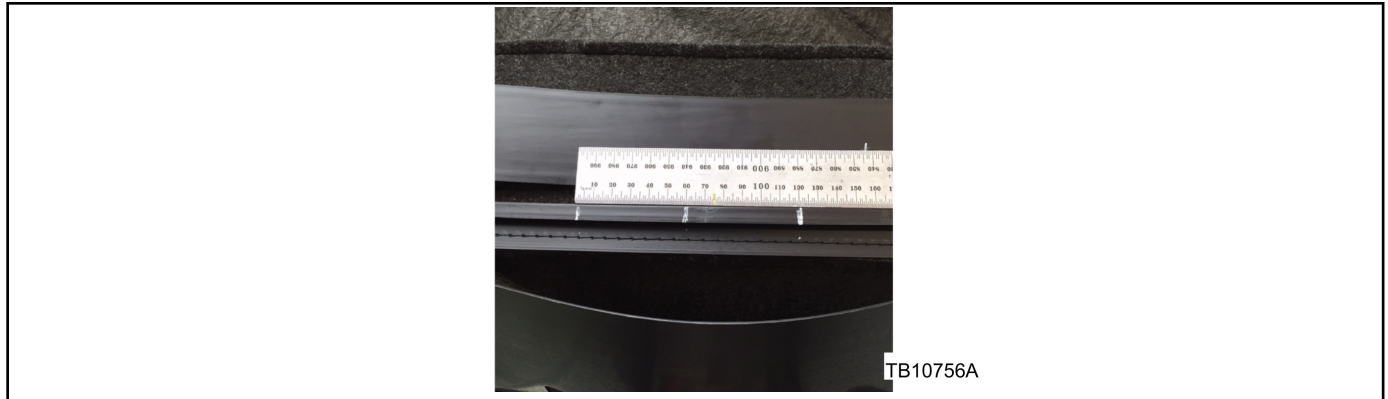

Figure 2 - Article 15-0154
- a. These new marks will be 120 mm (4 23/32") apart. (Figure 2)